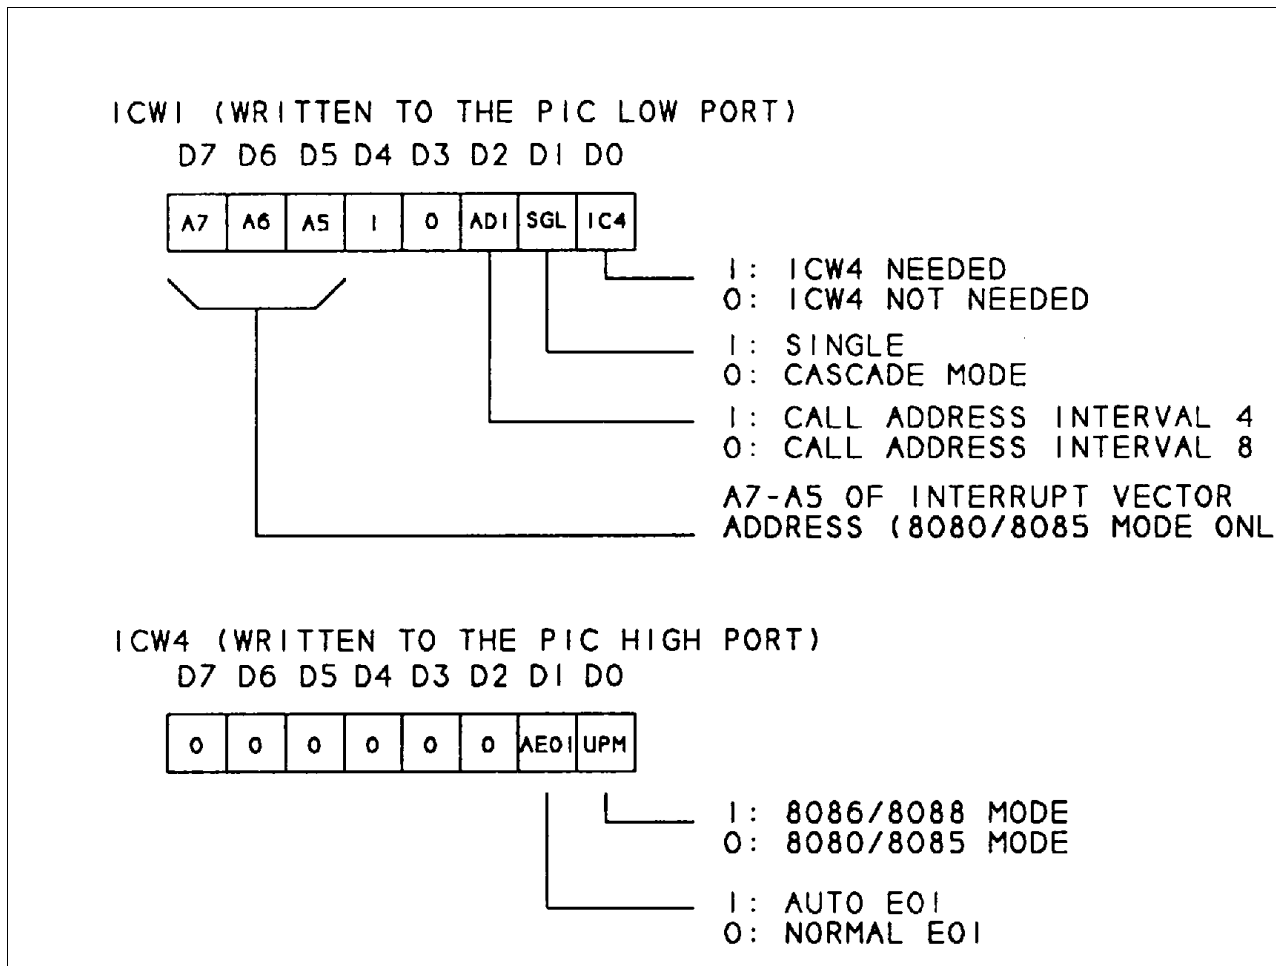

Figure 3.3 PIC ICW format.
Figure 3.3 shows the format for ICW1 and ICW4. Set the bits for the 5312B to the PIC low port in the following manner:
D2 (P): Polled Mode. If set, the next read of the PIC low port will return the highest priority level requesting the interrupt if an interrupt has occurred. See Figure 3.3.